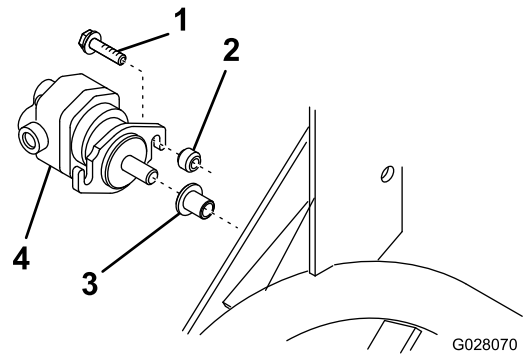

Figure 10
B. Insert the splined shaft of the reel motor into the storage tube on the frame (Figure 10).
C. Using the reel motor flange as a template, position it as shown in Figure 10, drill an 8.75 mm (0.34 inch) diameter hole on the line drawn in step A.